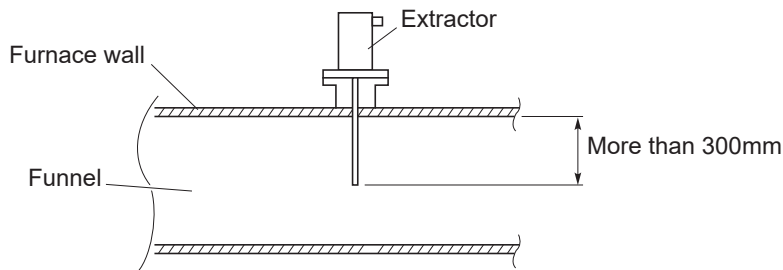

Fig. 5-3 Position of extractor
- (4) When mounting the extractor, the tip of it should be at the center of funnel (more than 300mm apart from furnace wall to prevent leak air from being sucked into the extractor) (Fig. 5-3).